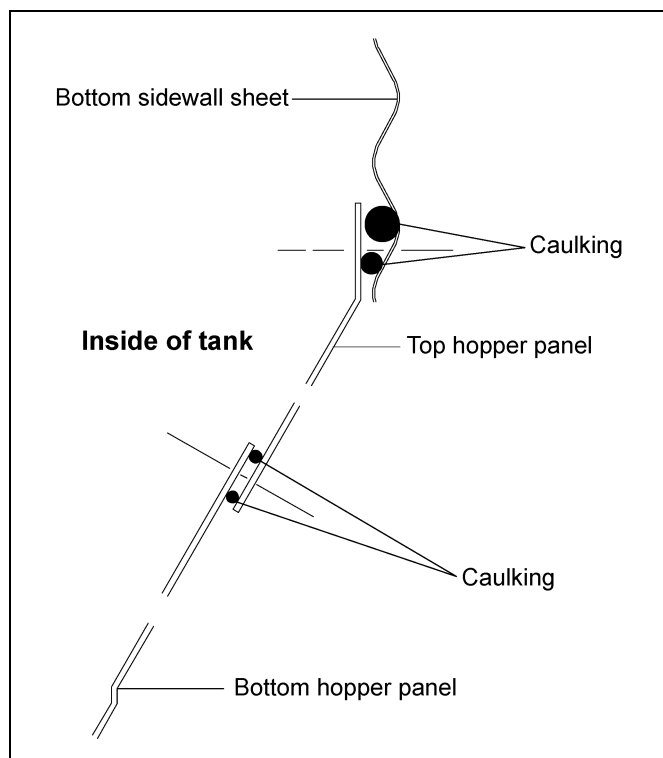
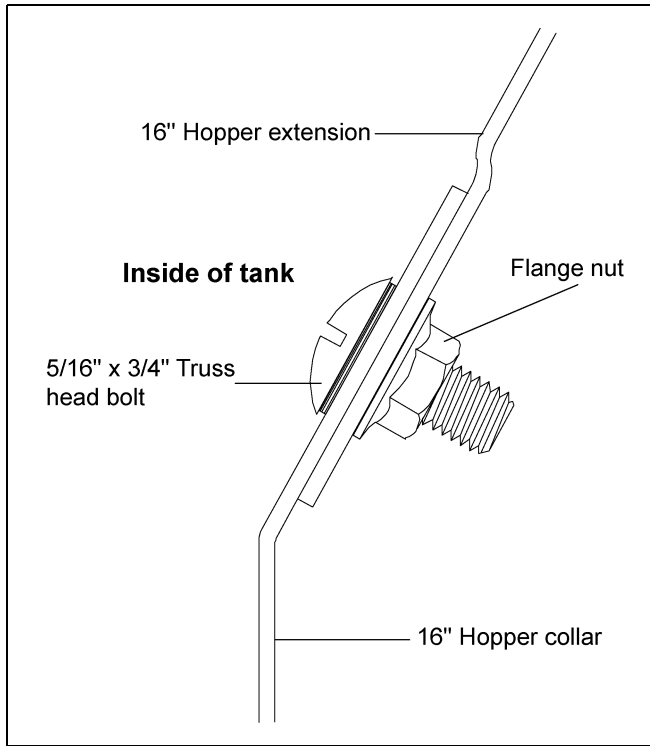

Figure 8D 15' 60°, 18' 45° and 21' 45°
Figure 8G 16" Hopper Collar Detail
When starting to attach hopper sheets to sidewall it is recommended that the first hopper sheet seam be positioned halfway between leg positions. Lap the hopper sheets as shown in Figure 8D and Figure 8G on Page 48. Use two (2) strips of caulking on all seams at sidewall to hopper and hopper sheet to hopper sheet. Use 5/16" x 1-1/4" bin bolts (head to outside of tank) for attaching hopper sheets to bottom sidewall sheet. Use truss head bolts to attach hopper sheet to hopper sheet. Be sure to place the head of the truss head bolt on the inside of the hopper. Leave one hopper sheet out to allow room to install the hopper collar. Be sure to use two (2) strips of caulking between hopper collar and hopper sheets, then put last hopper sheet in place. After the collar is in place, attach the hopper braces and tighten all bolts.